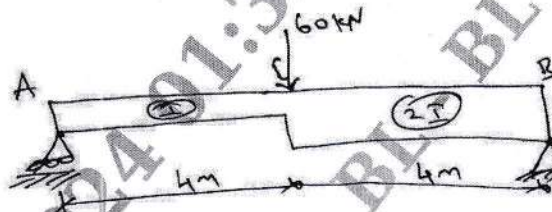

Fig.Q6
- 6 Determine θ_A , θ_B , θ_C and deflection Δ_C in the beam shown in Fig.Q6 by conjugate beam method.